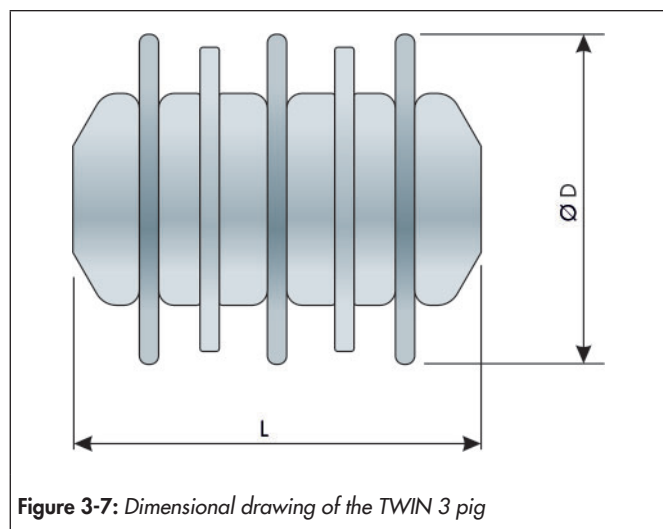

Figure 3-7: Dimensional drawing of the TWIN 3 pig
- ⇒ Consider tolerances and tightening torques when assembling, see figure 3-7 and table 3-6.